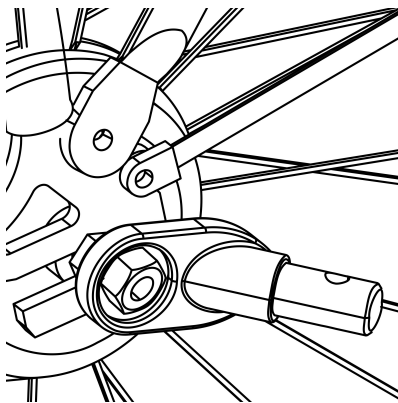

Figure 11
2. Nutted Axle: Unscrew the nut with washer from the left side of bike' s rear axle. Install the hitch onto the axle and screw the nut back on with the washer(Figure 11).